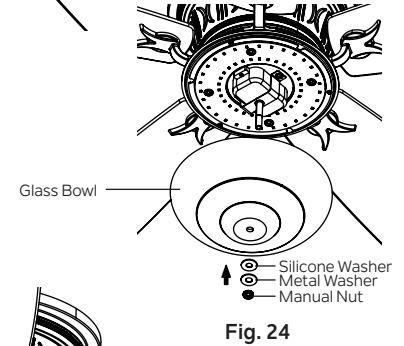

Fig. 24
**Step 3.** Lift the glass shade up to the light kit, allowing the threaded rod to go through the center hole in the bottom of the glass shade. Place the silicon washer and metal washer over the threaded rod, then screw the manual nut onto the threaded rod until tight. DO NOT OVER-TIGHTEN. (Fig.24)
**Step 1.** Remove the existing wall plate and the old switch from the wall outlet box. Wire the BLACK leads (hot) together with connector and push back inside the outlet box. (Fig. 24)